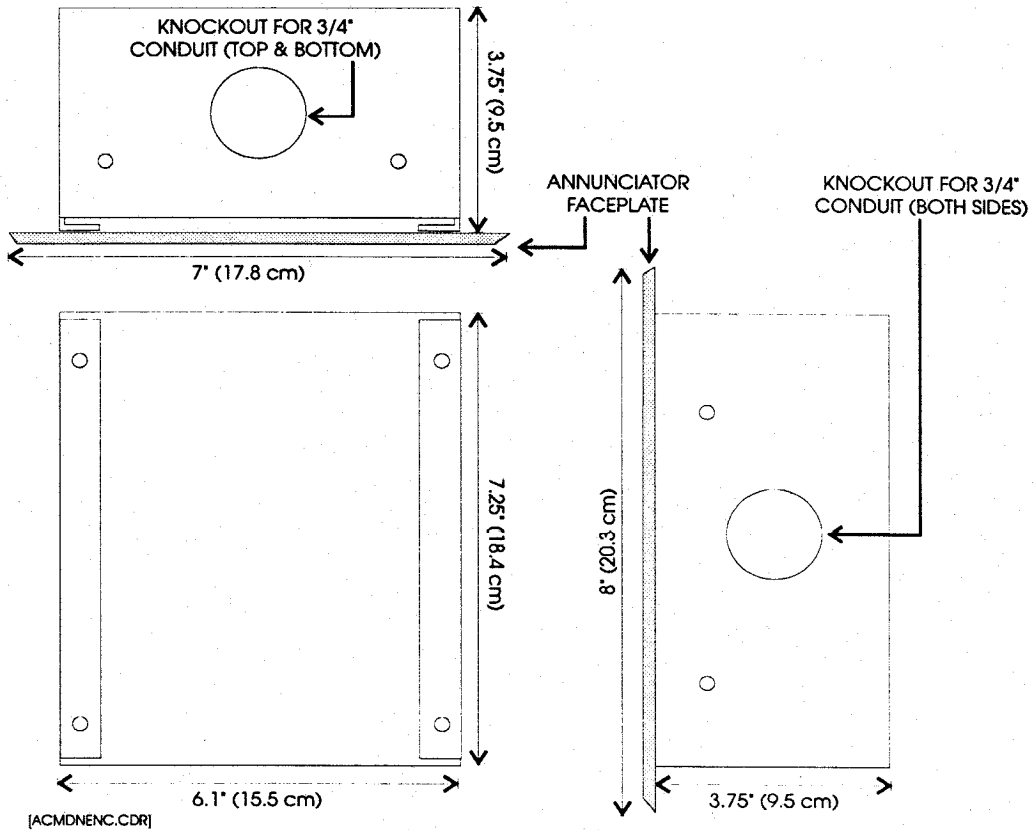

Figure 2.7 - 2-CMDN(-C) Flush Mount Enclosure
4. Mount annunciator in enclosure with hardware provided. See Figure 2.7.